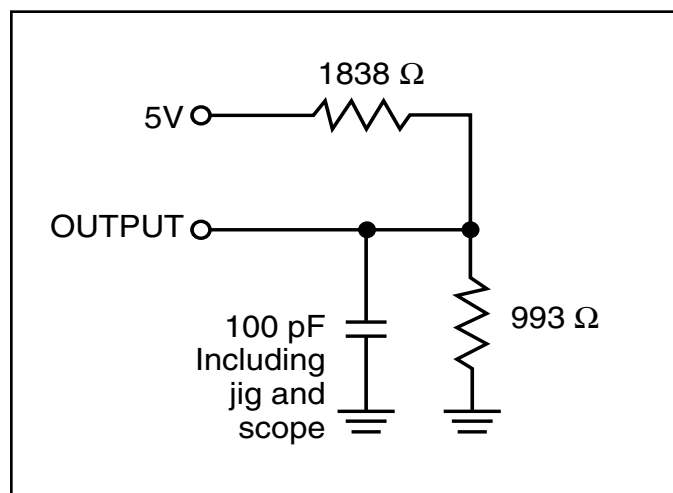

Figure 1a.
1. Test conditions assume signal transition times of 5 ns or less, timing reference levels of 1.5V, input pulse levels of 0.6 to 2.4V and output loading specified in Figure 1a.
Output Load	See Figures 1a and 1b